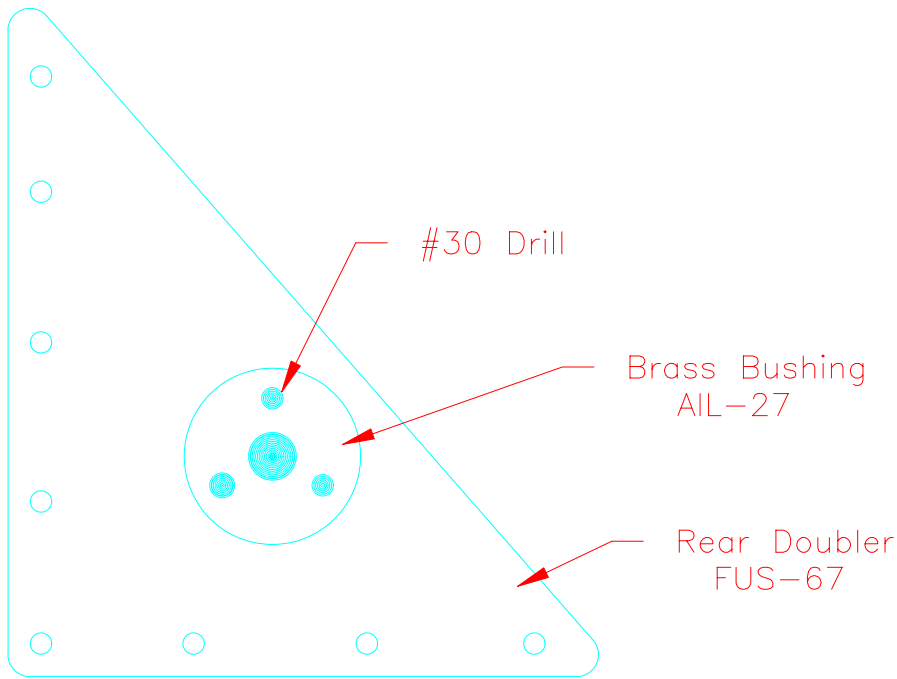

Figure 15.7.12
- 21) Center a brass bushing (AIL-27) in the 1/4" hole on the rear doubler. Figure 15.7.12.